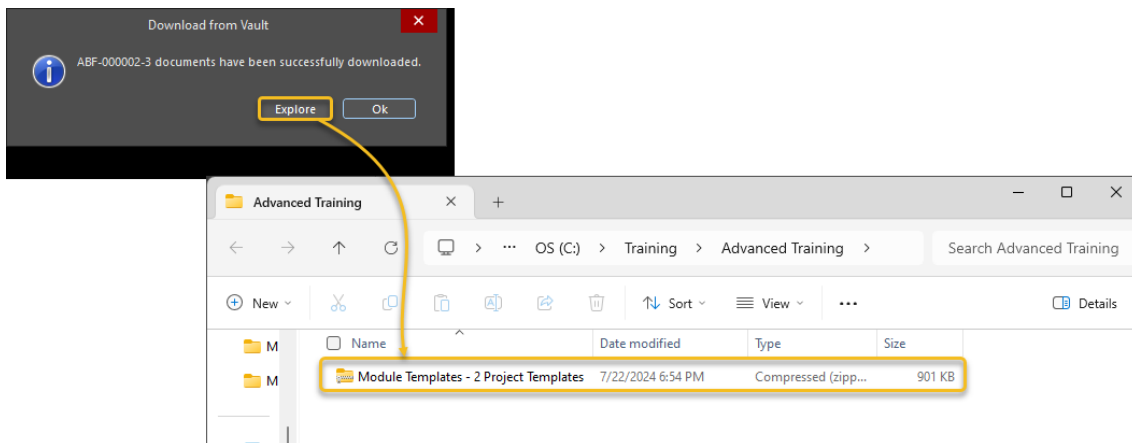

Figure 2. Compressed file in your Windows Explorer
6. From the dialog *Download from Vault*, select **Explore** to open a Windows Explorer, Figure 2.